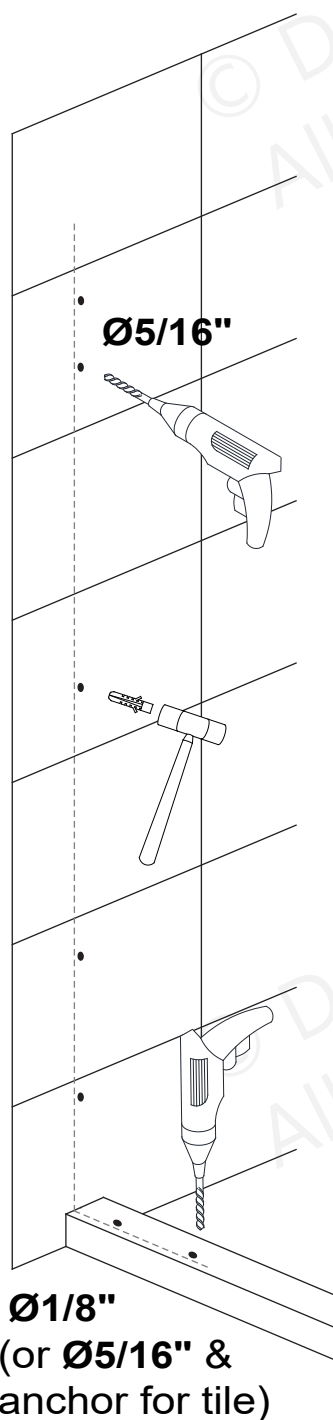

Fig 5
- Drill $\text{Ø}5/16''$ holes and install anchors for installation into a tile threshold. **(Fig 5)**